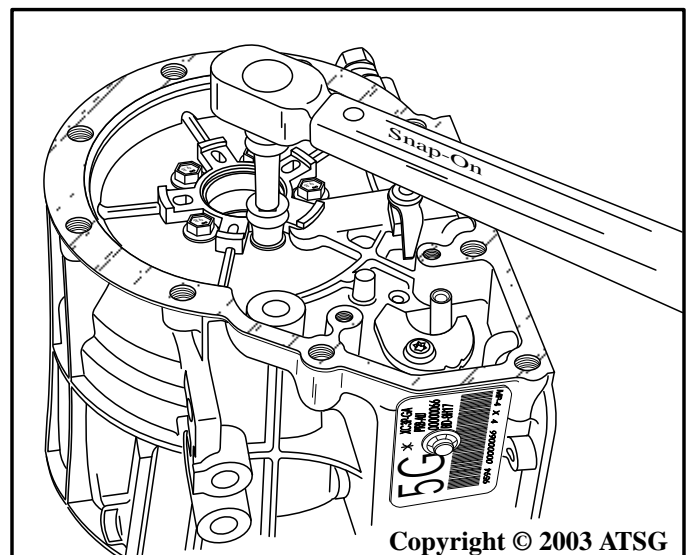

Figure 87
17. Install the two remaining retaining bolts and torque all five to 24-34 N·m (18-25 ft.lb.) in a criss-cross pattern, as shown in Figure 87.